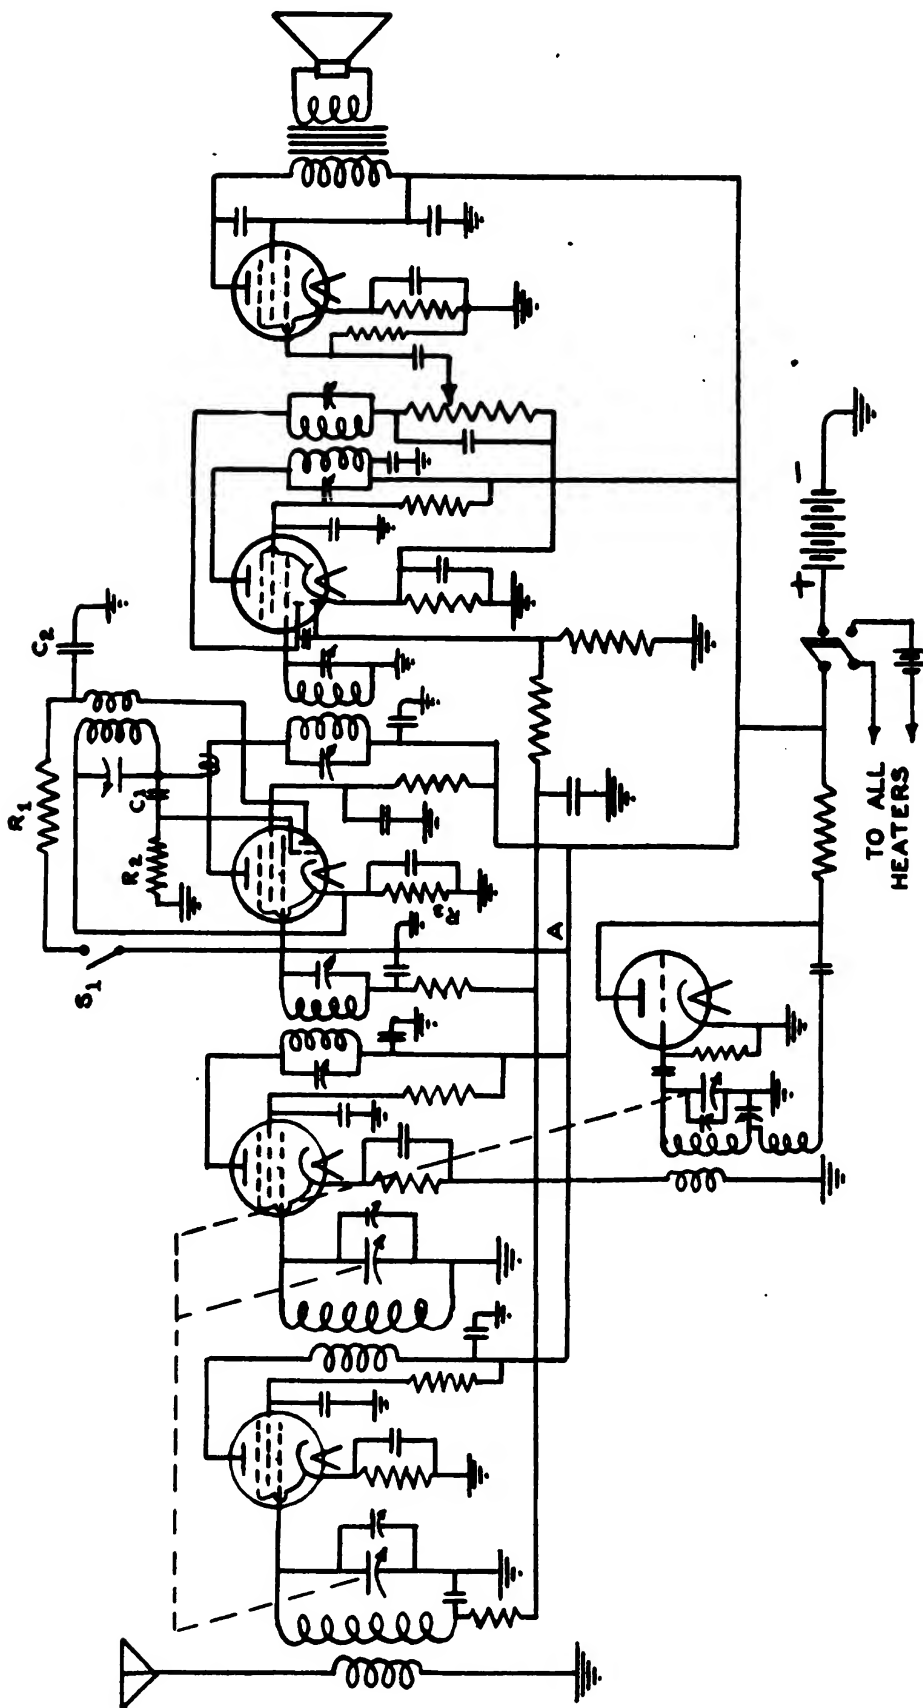

FIGURE 72.—Superheterodyne circuit.
*b.* Suppose the superheterodyne receiver whose circuit is shown in figure 72 will not receive continuous wave, although it works perfectly on voice or tone modulated signals. In this case the radio mechanic would probably proceed as follows:
(1) Test the triode section of the third tube.
(2) If this is found to be in order, a logical procedure would be to check, with the ohmmeter, between ground and the triode section grid and plate socket terminals respectively before replacing the tube.
(3) If this test shows infinite resistance between plate and ground and a value equal to the grid leak resistance  $R_2$  between grid and ground, further search must be made.
(4) On the other hand, should the resistance between grid and ground be about 500 ohms,  $C_1$  is probably shorted and this can be verified by measuring between grid and cathode, which will be approximately zero if this condenser is at fault.